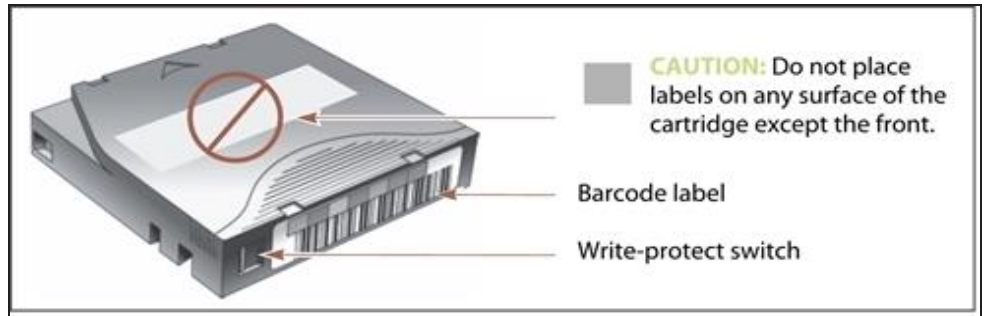

Figure 138 Attach barcode labels to cartridges and check write-protect switch setting (LTO cartridge shown).
1. If your cartridges are unlabeled, prepare and affix a barcode label to each cartridge. Position each label in the indented area on the cartridge, as illustrated in Figure 138. See Barcode Label Specifications on page 599 for detailed information about barcode labels.
Do not place labels on any surface of the cartridge except the area shown in Figure 138. An improperly positioned label can become dislodged and damage the drive.